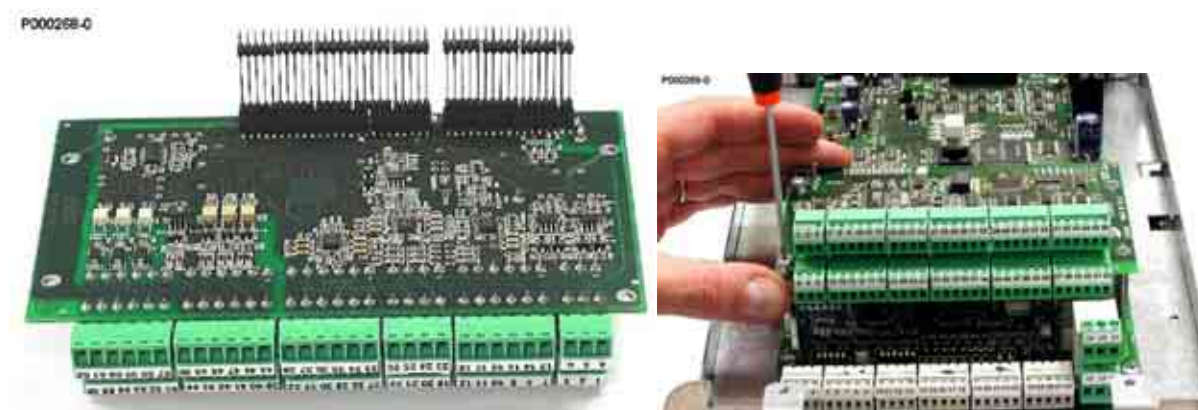

Figure 111: Fitting the strips inside board ES847 and fixing the board on slot C
- 3) Insert the two contact strips supplied in the bottom part of board ES847; make sure that each contact enters its slot in the connector. Insert board ES847 over the control board of the PENTA inverter; make sure that each contact enters its slot in the signal connector. Use the screws supplied to fasten board ES847 to the fixing spacers. (Figure 111).